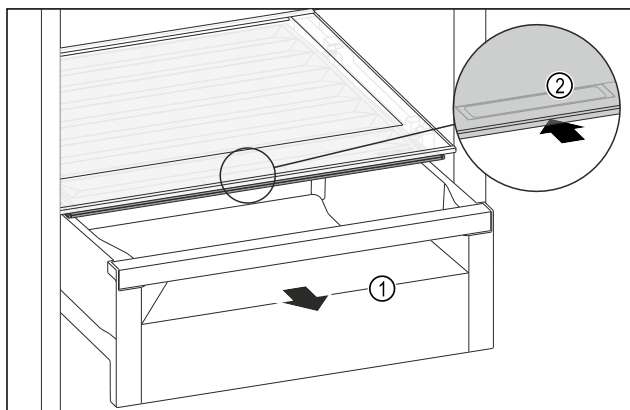

Fig. 162
- ▶ Pull out the drawer Fig. 162 (1).
- ▶ Grip the handle recess Fig. 162 (2) on the lid while pulling the lid backward at the same time.